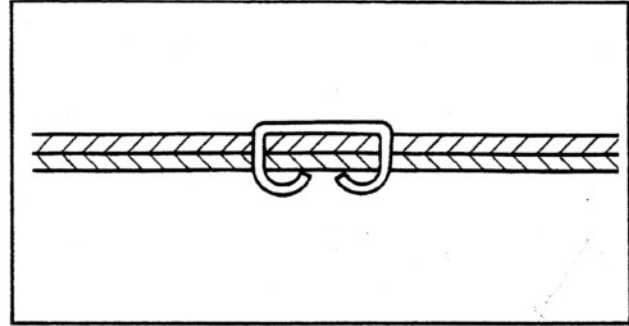

Figure 8
5. Close wire feed gears. Operate the stitcher under motor power, driving several stitches into material of the same thickness as the work to be stitched. Examine resulting stitches to determine if the correct amount of wire is being used (figure 8 shows what the stitch should look like.)